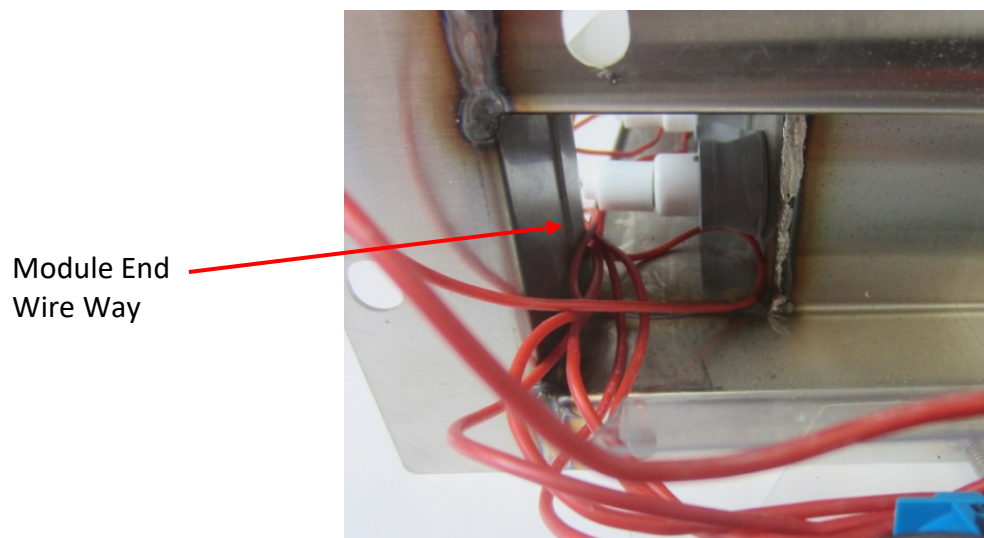

Figure 6-17-1
18. Insert all the wires through the appropriate ends of the Module and through the Module End Wire Way that leads to the Ballast Raceway (Refer to Figure 6-17-1)